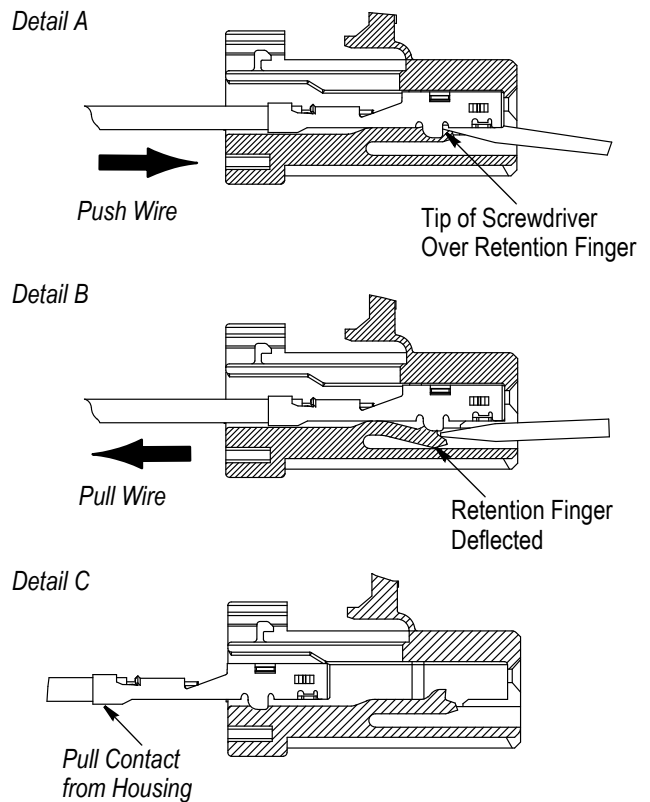

Figure 5
2. At the mating end of the connector, insert the tip of a 1.5-mm (or smaller) flat-blade screwdriver into the contact cavity of the contact to be removed. See Figure 5, Detail A.
3. Grasp the wire of the contact to be removed and push the contact forward into the contact cavity until it stops. See Figure 5, Detail A.
4. Using the screwdriver, gently deflect the retention finger of the contact cavity, and simultaneously pull the wire until the contact is free from the retention finger. See Figure 5, Detail B. Pull the contact from the housing. See Figure 5, Detail C.